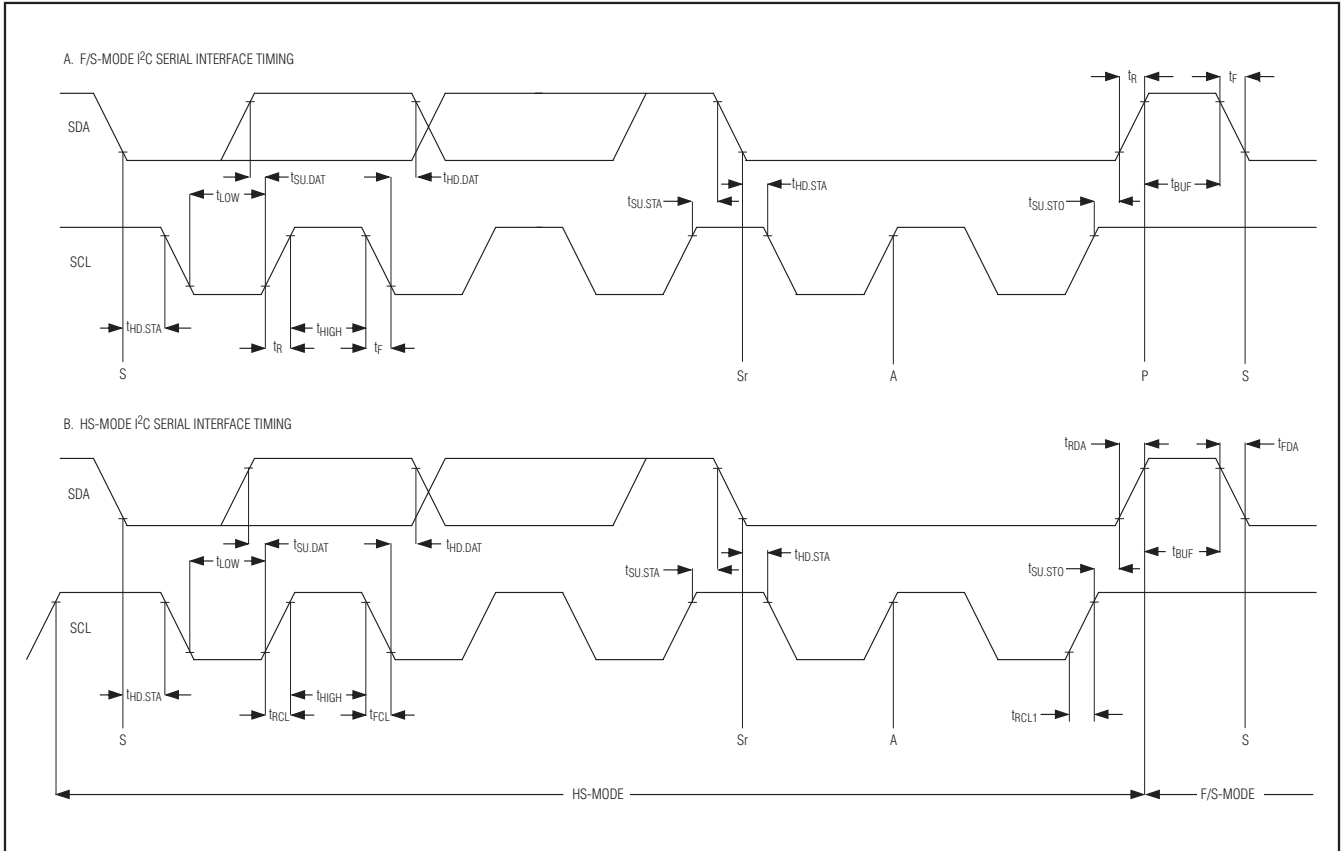

Figure 1. I2C Serial Interface Timing
**Note 12:** A master device must provide a data hold time for SDA (referred to  $V_{IL}$  of SCL) in order to bridge the undefined region of SCL's falling edge (Figure 1).
At power-up, the MAX1036–MAX1039 bus timing defaults to fast mode (F/S-mode) allowing conversion rates up to 44ksps. The MAX1036–MAX1039 must operate in high-speed mode (HS-mode) to achieve conversion rates up to 188ksps. Figure 1 shows the bus timing for the MAX1036–MAX1039's 2-wire interface.